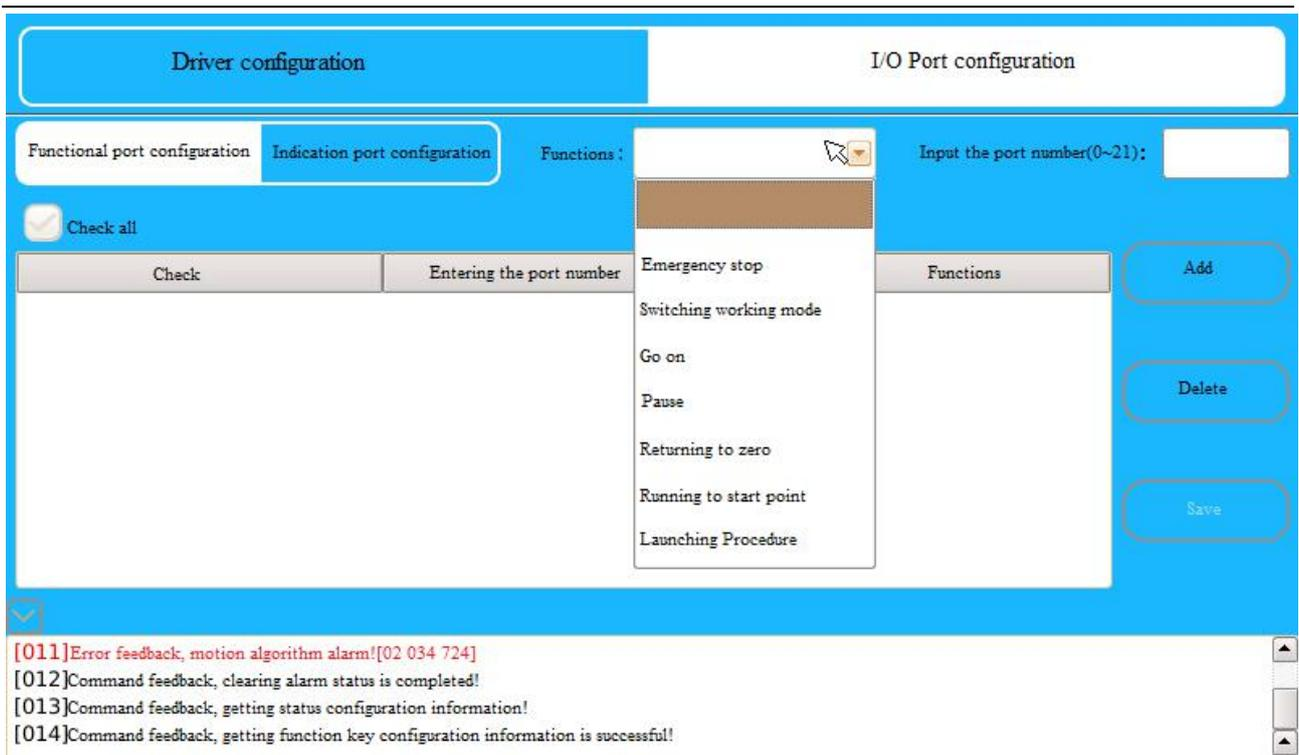

Fig. 3.3 Functional Port Configuration
(1) Functional port configuration: The control system provides 7 special functions of “emergency stop”, “Switching Mode of Work”, “Go on”, “Pause”, “returning to zero”, “Running to start point” and “Launching Procedure”. I/O input port number is “0-21”. You can configure these functions arbitrarily, as shown in Fig. 3.3. The same special feature allows different I/O input ports to be configured, but only one special function is configured for the same I/O input port, and in order to take effect, the “Save” button needs to be clicked after the “Add” is configured; I/O input ports cannot be used again as common I/O input ports if special functions are configured, but after the special functions configured of the “I/O input port” are “deleted” , the “I/O input port” becomes the common I/O input port again.